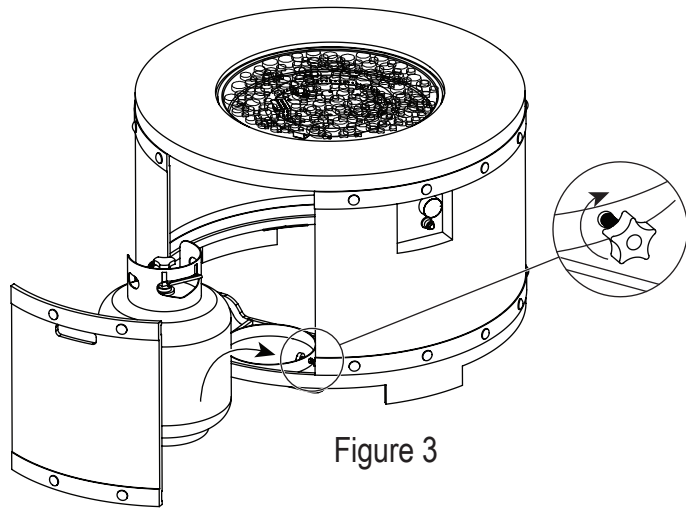
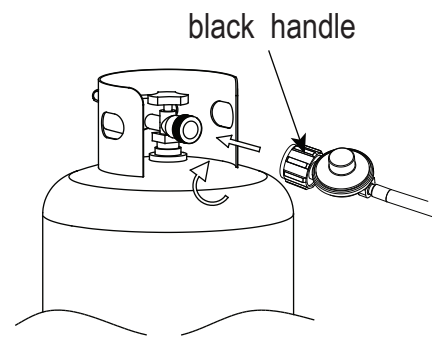

Figure 3
Figure 4
- Place the gas cylinder into the cylinder holder. Secure the cylinder by tightening clockwise the butterfly screw found on the cylinder holder (See Figure 3), so that the cylinder cannot move from side to side or fall down. Connect the regulator, screw the black handle (See Figure 4) clockwise to tighten, turn the black handle counterclockwise to remove. The knob on the control panel is turned all the way to the "OFF" position when the fire pit is NOT in use.